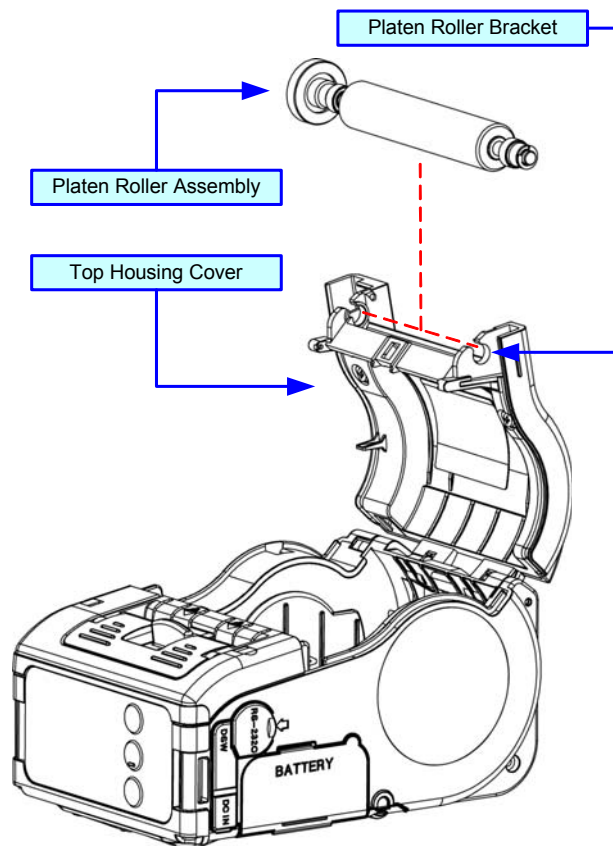

Figure 7-3b, Platen Roller Replacement
- 5 Lift the worn platen roller assembly from the platen roller bracket and discard (Figure 7-3b).